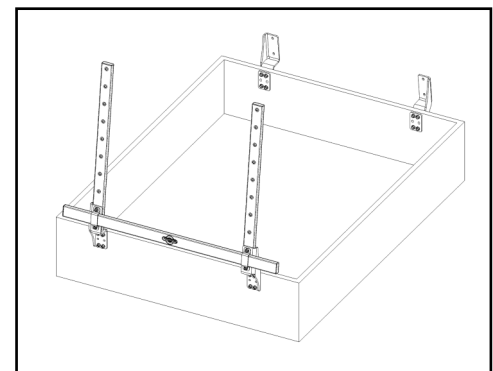

Fig. 3
3. See fig. 3. Repeat step 2 for the second vertical tube.